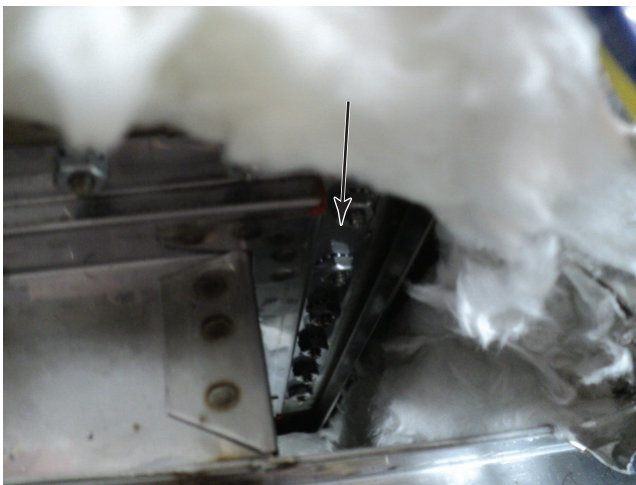

Figure 17
3. It is recommended that you remove the nuts using the following sequence, six nuts along the right side of the feed box (Figure 17).